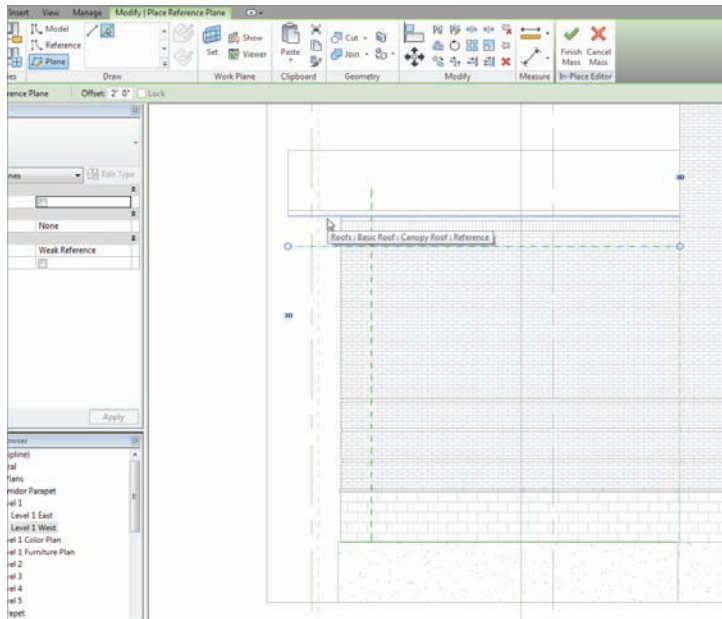

FIGURE 16.41 Creating some guides
2. In the Draw panel, click the reference Plane button, as shown in Figure 16.41.
4. With the same command still running, offset another reference plane down 2'-0" (600mm) from the bottom of the roof beyond (see Figure 16.41).